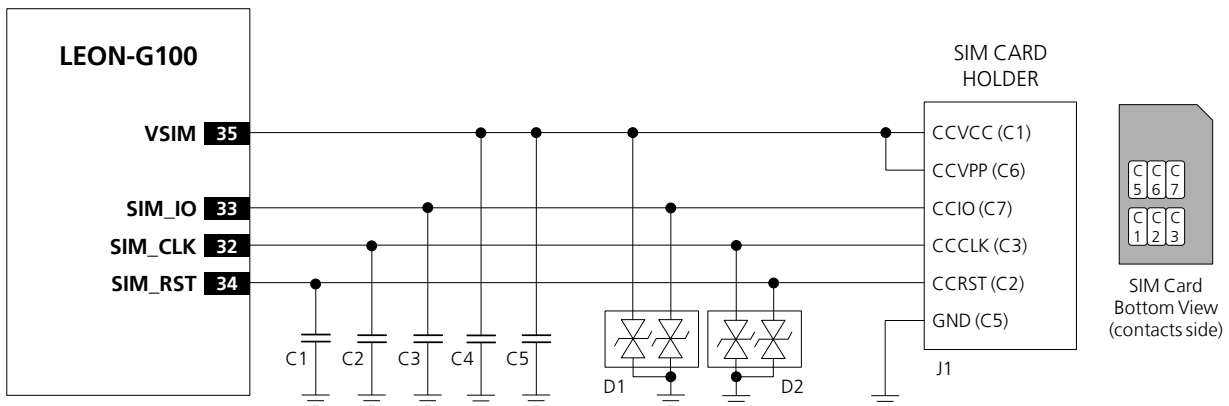

Figure 20: SIM interface application circuit
Figure 20 shows the minimal circuit connecting the LEON-G100 and the SIM card. This shows the **VSIM** supply connected to the VPP pin (contact C6) of the SIM card as well as VCC (contact C1). Providing VPP was a requirement for 5 V cards, but under 3GPP TS 51.011 specification [17], 3 V and 1.8 V SIM cards do not require VPP and the mobile equipment (ME) need not provide contact C6. If the ME provides contact C6, then it can either provide the same voltage as on VCC or it can leave the signal open, but it cannot connect VPP to GND.